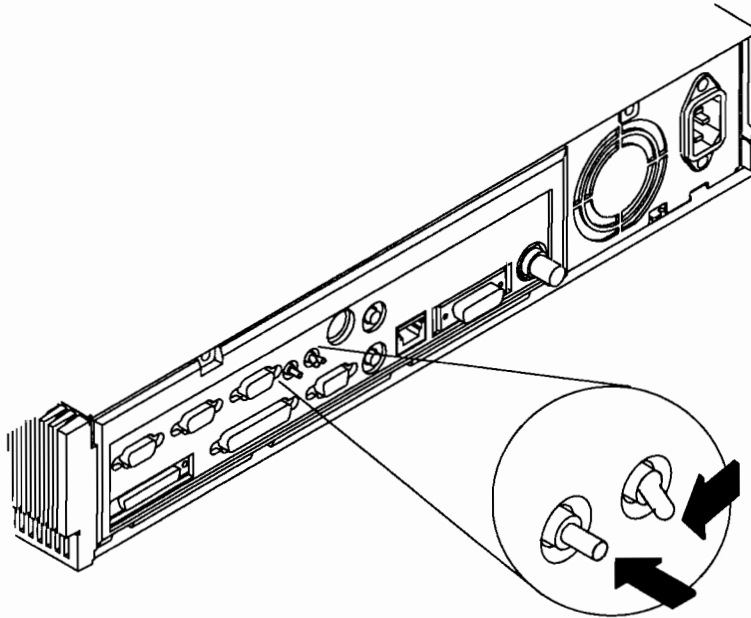

Figure 10-16. Setting the System to Service Mode
1. Before the system finishes running self-tests, first set the Service/Normal mode switch to Service mode, and then press the Reset switch as shown in Figure 10-16.